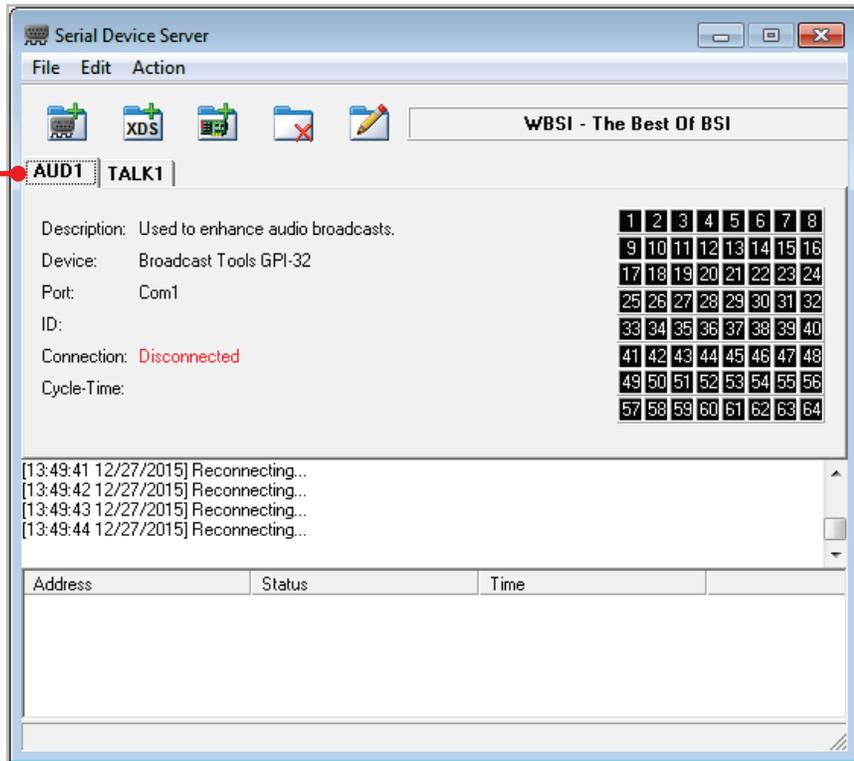

Figure 12-6. Examples of Device Tabs
1. In the Serial Device Server tool bar, click the tab of the serial device you want to delete (see Figure 12-6 on page 340).